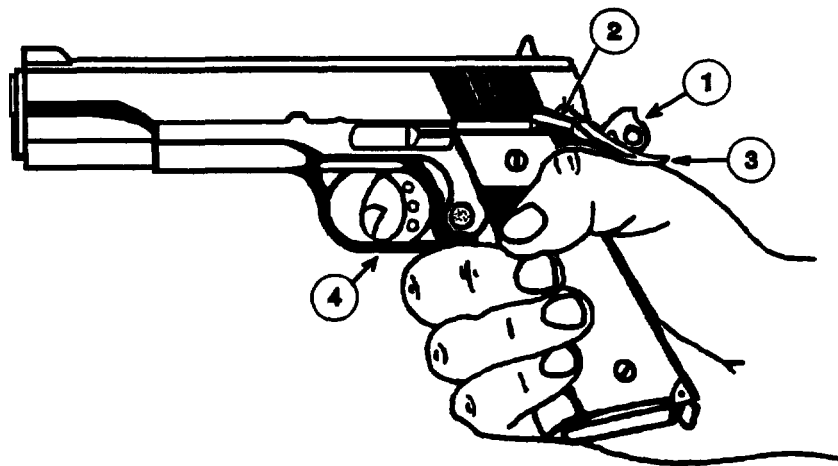

Figure 6-37. Ambidextrous Thumb Safety Test
6-18. SAFETY CHECK (Figures 6-37 thru 6-40)
b. Ambidextrous Thumb Safety Test. With the pistol unloaded, cock the hammer (1), Figure 6-37, and push the ambidextrous thumb safety (2) up to the SAFE position. Grasp the pistol so that the beavertail grip safety (3) is depressed. Squeeze the trigger (4) three or four times. If the hammer (1) falls, replace the ambidextrous thumb safety and/or the beavertail grip safety.